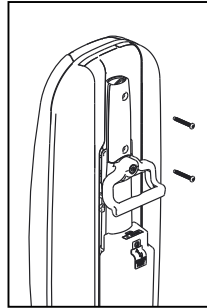

Fig. 1
- Remove the handle bracket by removing the two screws (Fig. 1).
- Secure with two screws removed in Fig 1. Tuck the cord into the space to the left of the handle.